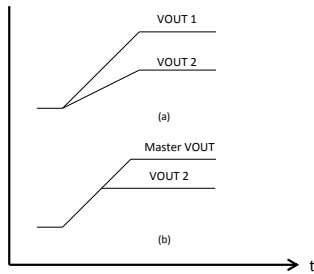

Figure 5 - PI354X-00 tracking methods
There is typically either proportional or direct tracking implemented within a design. For proportional tracking between several regulators at startup, simply connect all PI354X-00 device TRK pins together. This type of tracking will force all connected regulators to startup and reach regulation at the same time (see Figure 5 (a)).
All connected PI354X-00 regulator soft-start slopes will track with this method. Direct tracking timing is demonstrated in Figure 5 (b). All tracking regulators should have their Enable (EN) pins connected together to work properly.